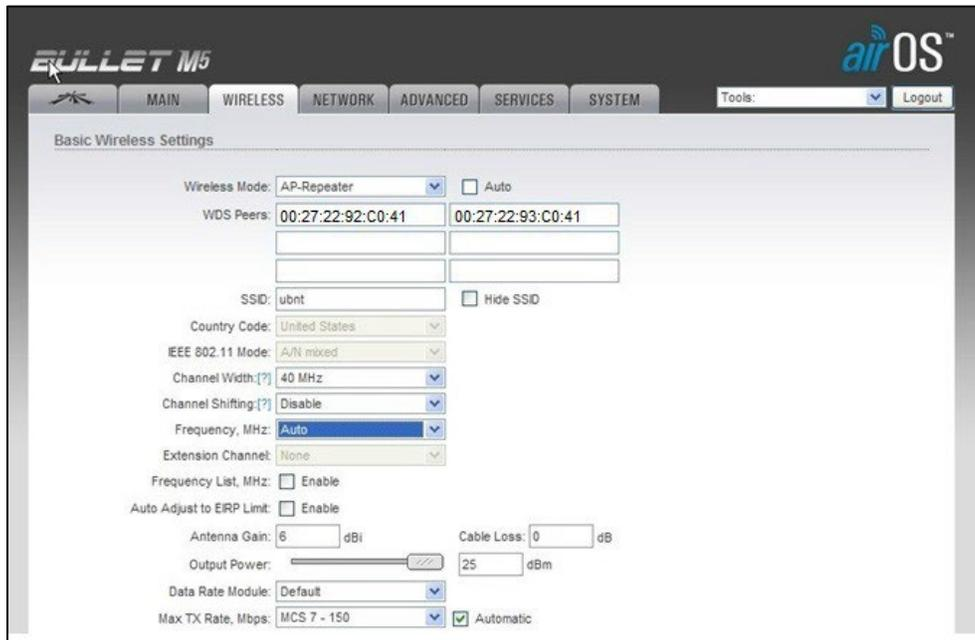

Figure 6. Selecting AP-Repeater Wireless Mode
2. Select the **Wireless Mode** drop down menu (Figure 6):
- a. List the WDS Peers in the boxes as shown in (Figure 6). If the Auto box is checked to the right of AP-Repeater wireless mode, WDS Peers: will automatically be selected according to the SSID selection. This could put other devices in the network path of the repeater that may not be desired.